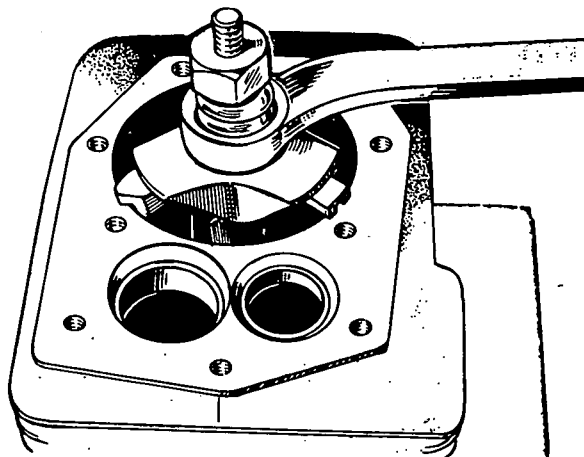

FIGURE 23. REMOVING RIDGE FROM THE CYLINDER
3. Remove the ridge from the top of each cylinder with a ridge reamer before attempting piston removal (Figure 23).